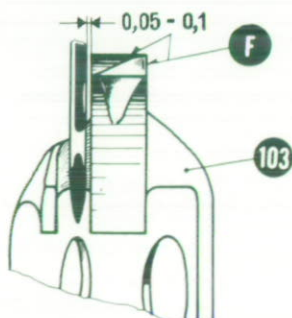
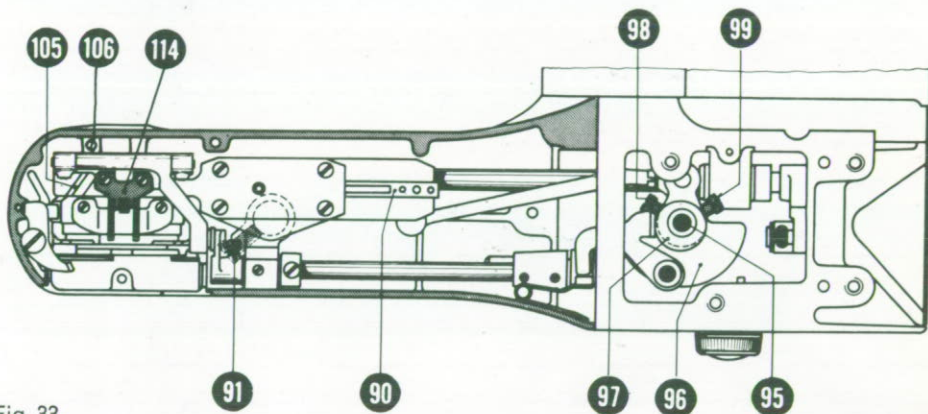

Fig. 32
Fig. 33
Next, check the lateral adjustment of the needle in relation to the shuttle (103). The distance should be 0,05-0,1 mm (Fig. 32). The lateral adjustment is carried out by shifting the shuttle race (105) Fig. 33 and 34.
Unscrew the screw (106) fitted to the rear base wall (accessible from the top left-hand side), and move the whole shuttle race forward or back, according to whether the needle distance is too large or too small. After adjustment tighten screw (106) Fig. 33.